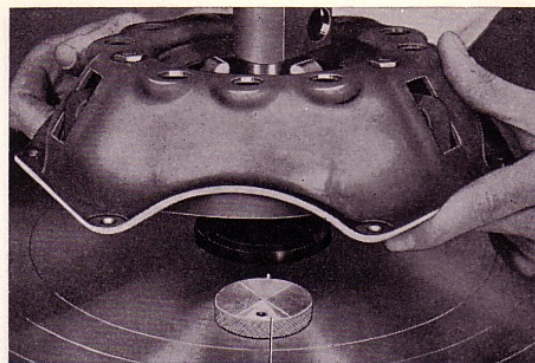

Fig. 16. Placing the clutch in the fixture, I
2. Place the packing blocks No. 0 on fixture SVO 2322, see Fig. 16. Place on the clutch, the 3-point support, the arms and the three thrust rods, see Fig. 17. Place on the wrench handle and press down the clutch until the casing contacts the bottom plate.